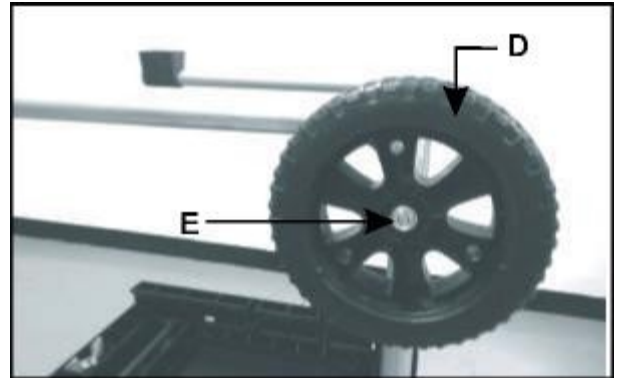

Fig. 1C
- Please the wheels (D) and install nut hand tight (E). (Fig. 1C)